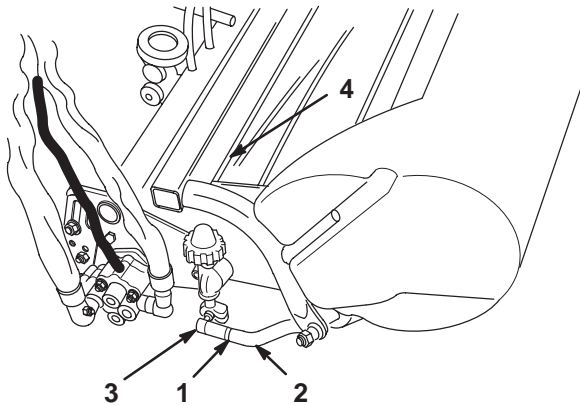

Figure 11
6. Mount the baskets on the pull frames, loosen the jam nuts on the pull arms, and adjust the ball sockets until there is 1/4 to 1/2 in. (6.4 to 12.7 mm) clearance between the lip of the basket and the reel blades (Fig. 11).
7. Align the sockets in the ball joints so the open side of the socket is centered towards the ball stud. Tighten the jam nuts to secure the sockets in position (Fig. 11).